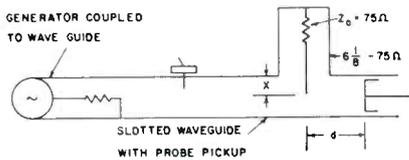

Fig. 12—Experimental setup for matching transformer.
B. *Coax-to-Waveguide Transformer*—The bandwidth requirements were such as to accommodate a six-megacycle television channel. At 500 mc, this is not a very large percentage; therefore, a simple probe-type transformer was used. See Fig. 12.
Fig. 12 is a line sketch of the test setup. A long piece of WR 1500 waveguide was slotted along its broad face, and a track and carriage mounted to make a slotted line. A hole with a bolt circle for a split, the Smith chart gives the components of y_l , y_r , y_l' and y_r' .
over the bullet could be moved on the bullet to vary the dimension "X" of Fig. 12. A sliding short circuit constructed as shown in Fig. 11 could be moved to vary the dimension "d" of Fig. 12.